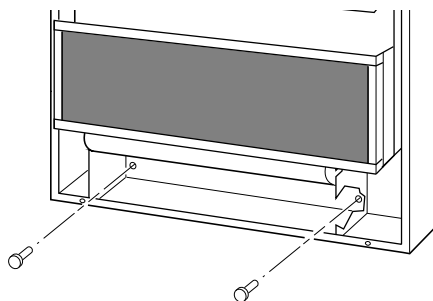

Figure 17 - Installing Bottom Mounting Screws
1. Locate two bottom mounting holes. These holes are near bottom on back panel of heater (see Figure 17).